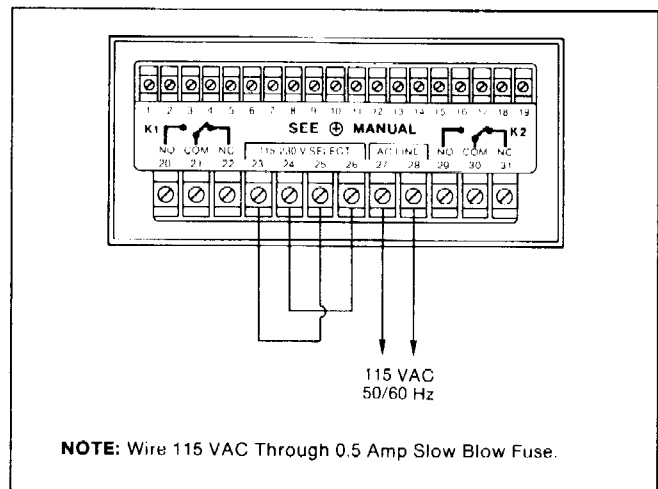
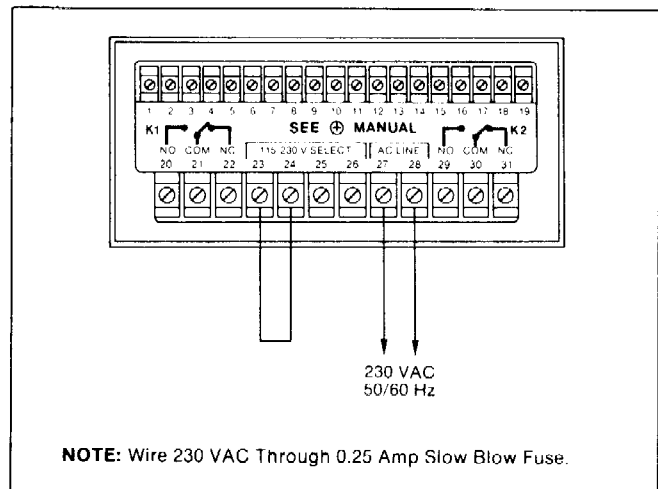

Figure 4-3. 115 VAC Power Line.
Figure 4-4. 230 VAC Power Line.
1. Wire the AC power line per Figure 4-3 (115 VAC) or Figure 4-4 (230 VAC).